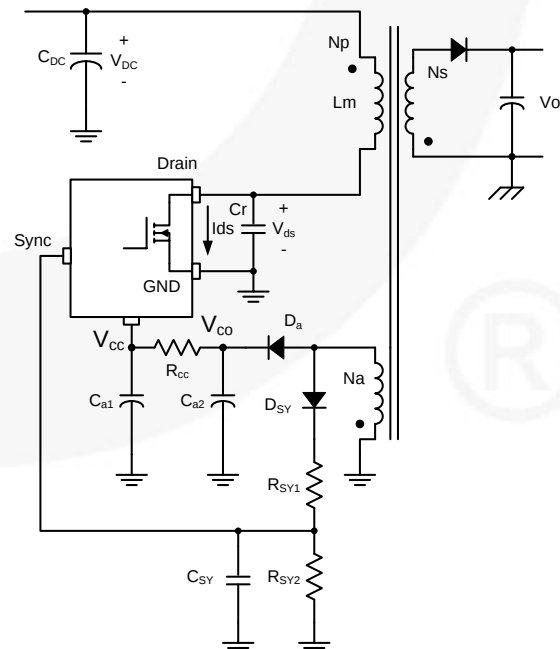
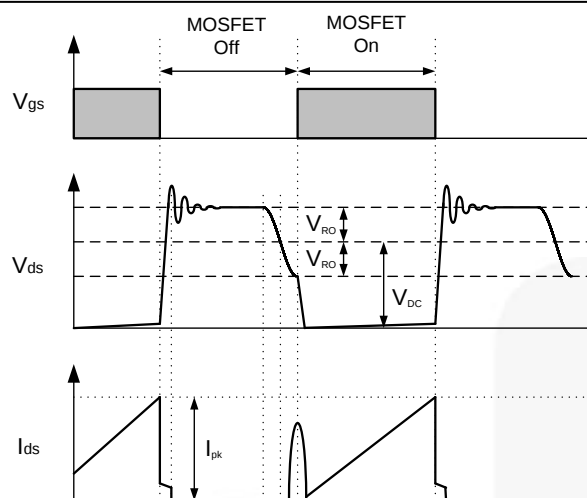
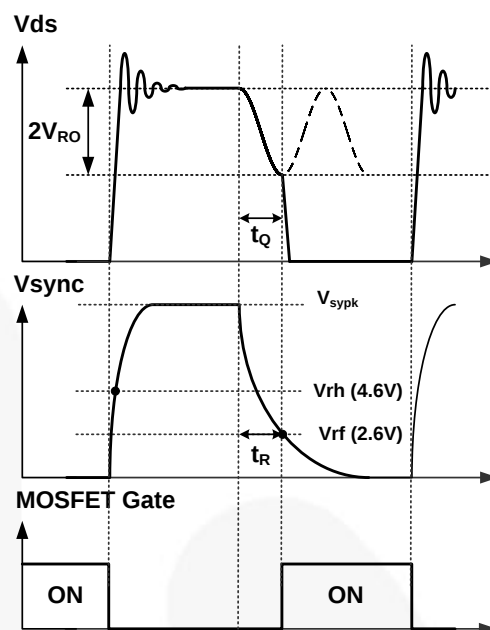

Figure 27. Synchronization Circuit
Figure 28. Quasi-Resonant Operation Waveforms
Figure 29. Normal QR Operation Waveforms
2. Synchronization: The FSCQ series employs a quasi-resonant switching technique to minimize the switching noise and loss. In this technique, a capacitor (C_r) is added between the MOSFET drain and the source, as shown in Figure 27. The basic waveforms of the quasi-resonant converter are shown in Figure 28. The external capacitor lowers the rising slope of the drain voltage to reduce the EMI caused when the MOSFET turns off. To minimize the MOSFET's switching loss, the MOSFET should be turned on when the drain voltage reaches its minimum value, as shown in Figure 28.
The minimum drain voltage is indirectly detected by monitoring the V_{CC} winding voltage, as shown in Figure 27 and Figure 29. Choose voltage dividers, R_{SY1} and R_{SY2} , so that the peak voltage of the sync signal (V_{syph}) is lower than the OVP voltage (12 V) to avoid triggering OVP in normal operation. It is typical to set V_{syph} to be lower than OVP voltage by 3–4 V. To detect the optimum time to turn on MOSFET, the sync capacitor (C_{SY}) should be determined so that t_R is the same with t_Q , as shown in Figure 29. The t_R and t_Q are given as: